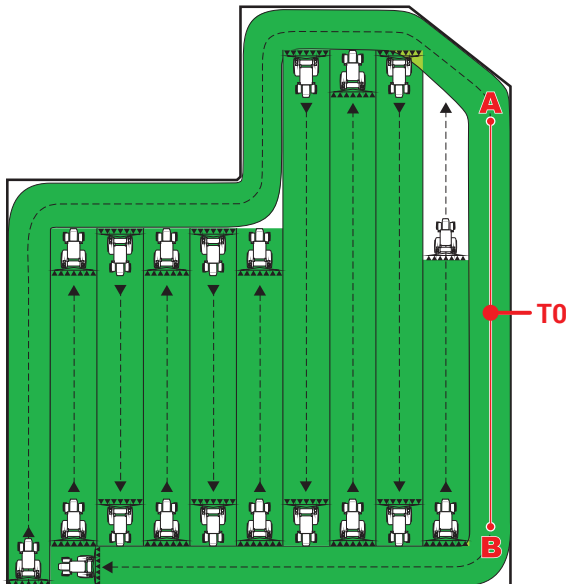
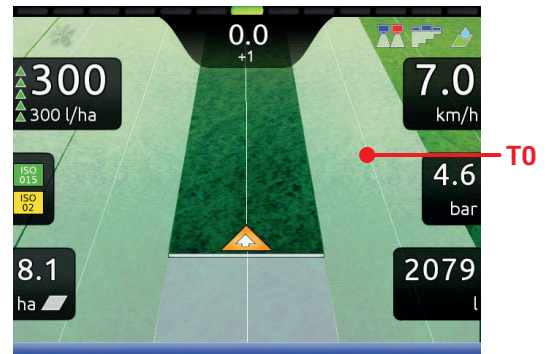

Fig. 237
Fig. 238
• Once the line from A to B has been marked (TO), it will be possible to spray the rest of the field along parallel lines, (Fig. 237), by following the reference tracks shown on the display (Fig. 238).